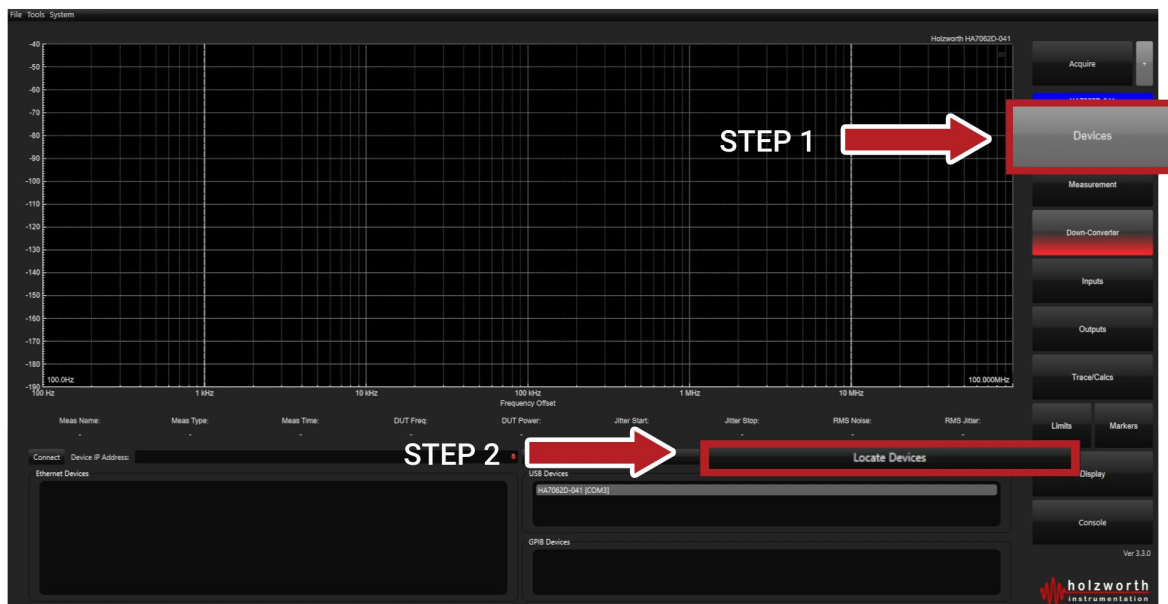

Figure 6: Ensure proper connections via the Devices menu.
STEP 2: Press the Locate Devices button in the section below the working area of the instrument's display. If the instrument is connected to the computer either via a USB cable or through the LAN, the software will be able to detect the instrument, and it will appear in the Devices section of the menu (Figure 6).
STEP 2: Press the Locate Devices button in the section below the working area of the instrument's display. As long as the instrument is connected to the computer either via a USB cable or through the LAN, the software will be able to detect the instrument, and it will appear in the Devices section of the menu (Figure 6).